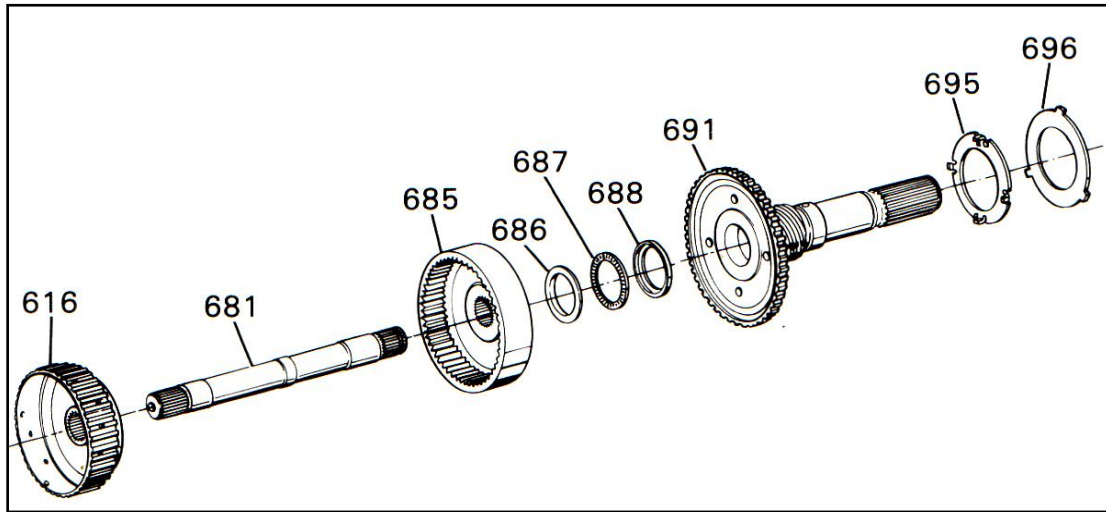

FIGURE 6-89
From the mainshaft, the force is transmitted to the rear internal gear (685) and the #22 thrust bearing assembly (686,687,688), then to the output shaft (691) and on to the output shaft to case thrust and selective washers (695,696), where it is finally grounded out at the transmission case. See Figure 6-89. In heavy duty and high load applications this can result in complete failure of the #22 thrust bearing assembly and output shaft to case thrust and selective washers (695,696).